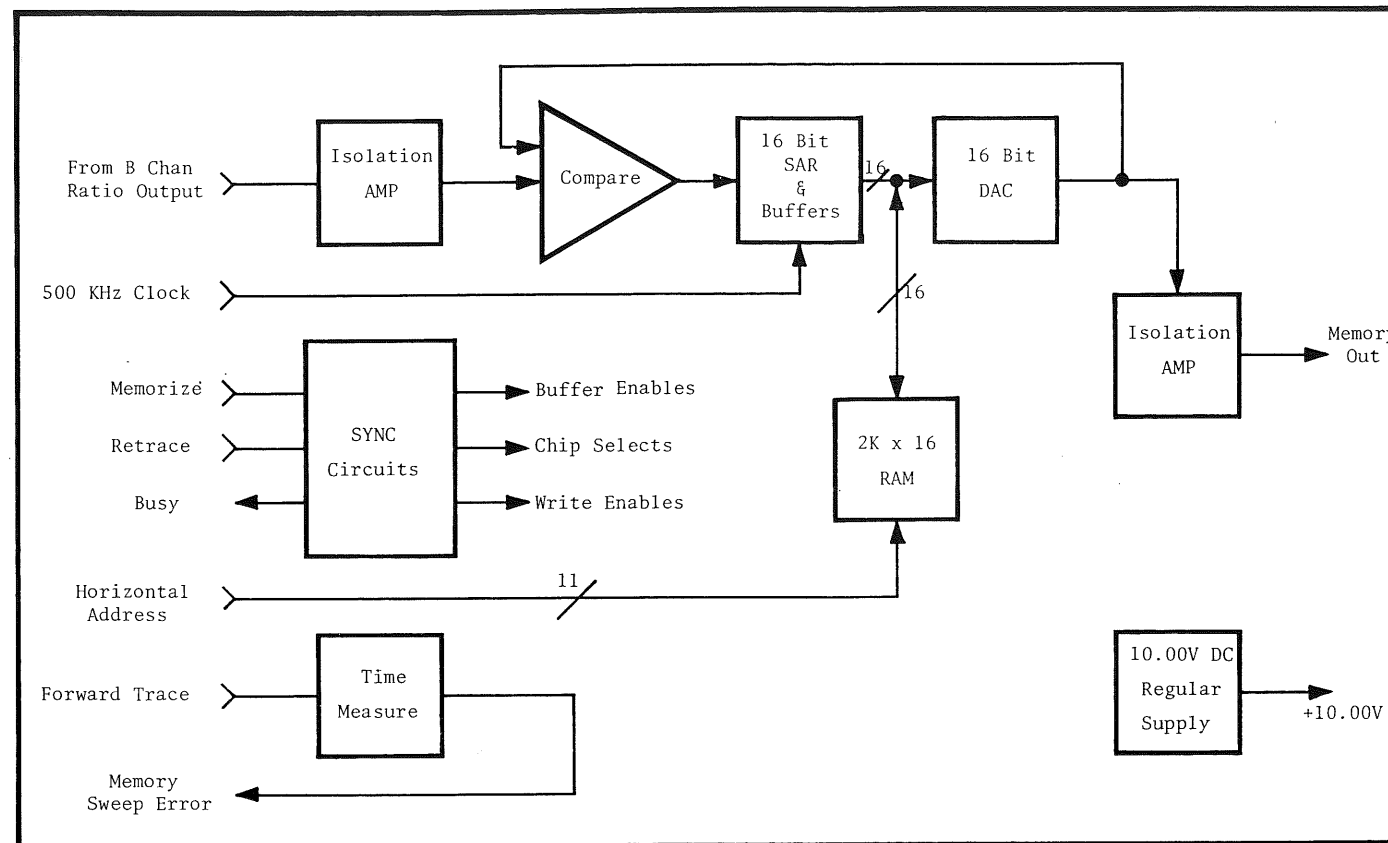

Figure 5-8 B Channel Memory (Bd # A7 - SD 14888)
The operations performed by the B Channel Memory board (Assy. #14887) can be divided into five different functions. Included in these are: (1) Memory Control, (2) A to D Conversion, (3) Random Access Memory (RAM), (4) Reference Voltage Supply and, (5) Sweeping Too Fast signal initiation. (Use Figure 5-8 - Block Diagram - and SD 14888 as aids to better understand the following discussion.)